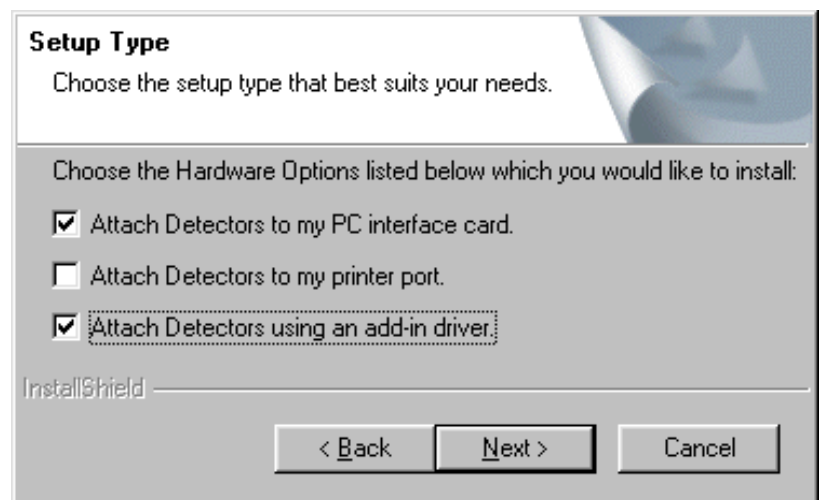

Figure 33. Select Hardware Interface Options.
- 5) The second installation wizard screen (Fig. 33) will ask which instrument interfaces you wish to use. These choices are given to minimize the interferences with existing hardware on the PC or network. Select as many as needed, however, choose only the attachment options appropriate for this PC. For laptops, do not check the **Attach instruments to my PC interface card** box. Check the **Attach instruments to my printer port** box only if you are connecting MCBs via the printer port.